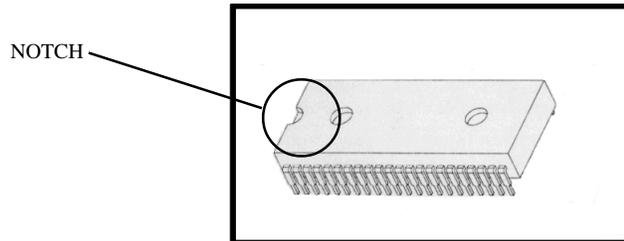

FIGURE 2-2
6. Take the new EPROM (Version SD01.04) and place it lightly on the chip socket, ensuring that the half-circle notch on the chip is positioned to the left (See Figure 2-2). Align the pins of the chip with the insertion holes of the socket.